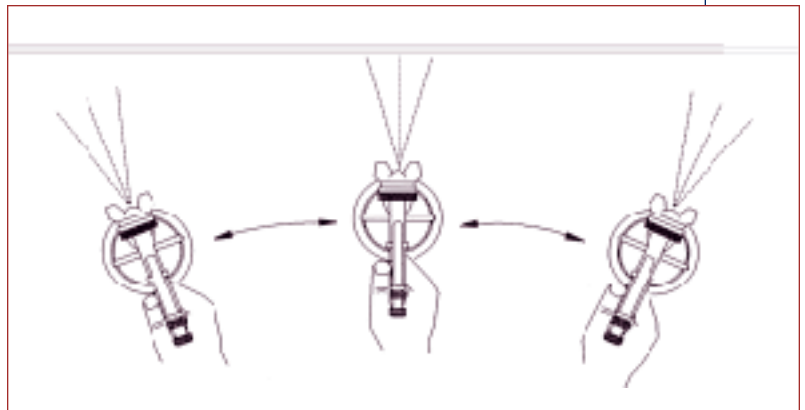

Figure 6: Improper Spray Technique
E. When spraying, always hold the gun perpendicular to the surface being sprayed, using parallel strokes. Never arc the spray gun (Figure 6), with two notable exceptions: